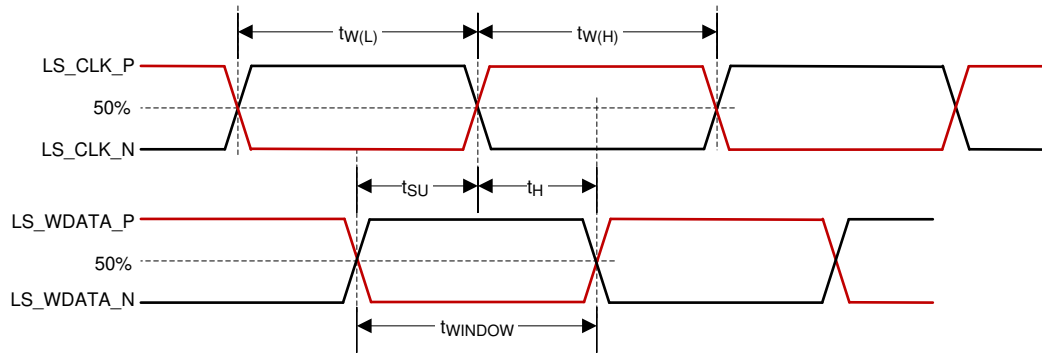

Figure 5-4. LSIF Timing Requirements
(3) See Figure 5-4 for pulse duration high and low time for LSIF.
(4) See Figure 5-4 for setup and hold time for LSIF.